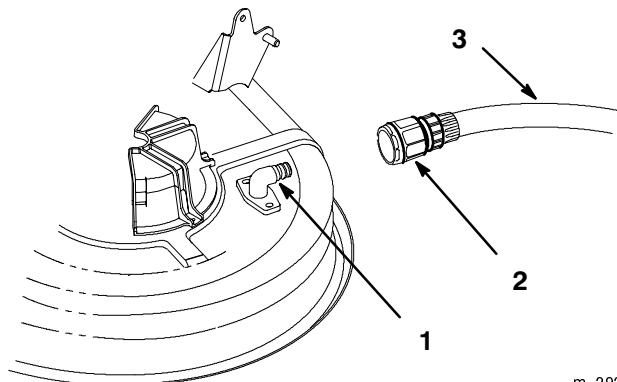

Figure 55
2. Attach the coupling (not included) to the mower washout fitting and turn the water on high (Fig. 55).